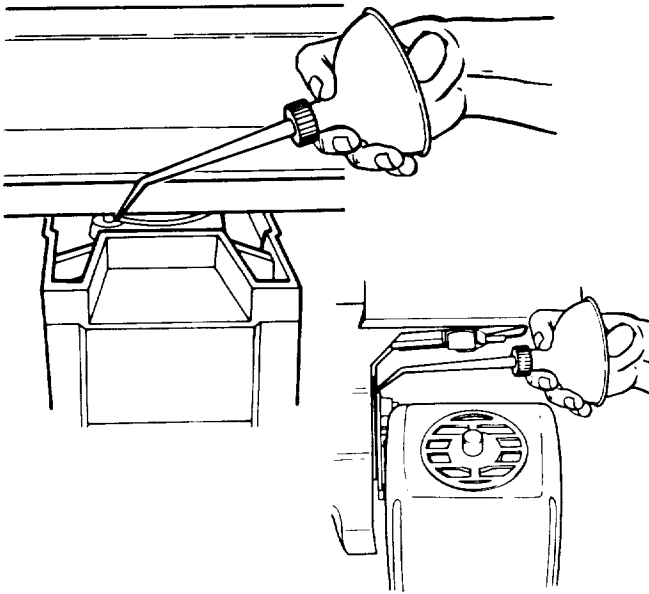

Fig. 173 - Swivel and Bevel Index Pins
- Apply a few drops of oil along the *swivel index pin* and the *bevel index pin* only if the pins have a tendency to stick. Swivel to in-rip or out-rip for easy access to the *swivel index pin*. Bevel to 45° and *bevel index pin* can be easily accessed behind the yoke as illustrated (Figure 173)